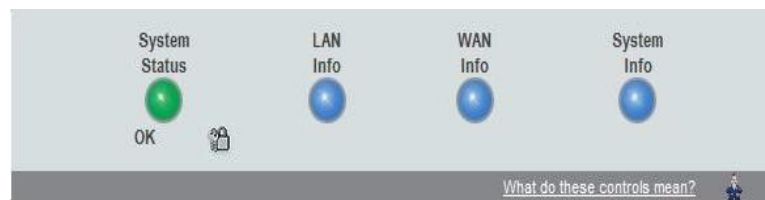

Figure 35: Web page top frame
The top frame of all System Control Center page and associated pages consists of four round buttons with labels above them, as shown in Figure 35. These buttons are links to other pages and appear at the top of every page, except the Advance pages:
- If the System Status indicator button is green and **OK** appears below it, as shown in Figure 35, the the router is operating properly.